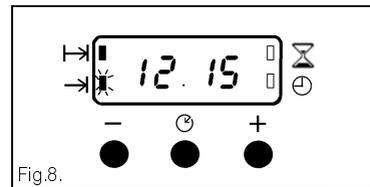

Fig.8.
- v) To set the 'End Time'. Press the Selector Control button until the 'End Time' indicator neon (➡) flashes. Press the increase control (+) until the required stop time is displayed, e.g. 12.15 p.m. as Fig. 8. If necessary press the decrease control (-) until the correct time interval is achieved.